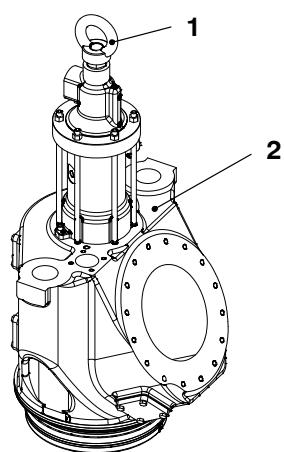
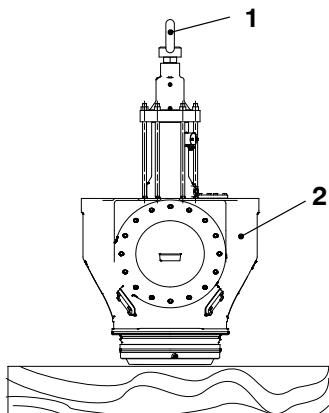

Fig. 5
Fig. 6
- 9) Operate the engine room crane to lift the exhaust valve assembly (2, Fig. 5) approximately 10 mm. Make sure that the cylinder cover stays on the wooden supports.
- 10) Fully lift the exhaust valve assembly (2) from the cylinder cover.
- 11) Use the engine room crane to move the exhaust valve cage (2) to an applicable area.
- 12) Carefully lower the exhaust valve assembly (2, Fig. 6) on to a wooden support.
- 13) Disconnect the crane hook from the eye bolt (1).